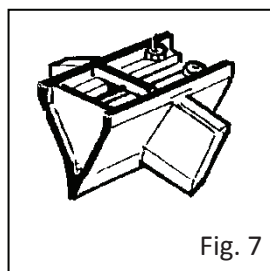

Fig. 7
**The same applies for any optional cutters that may be supplied upon request, such the cross cutter (see Fig. 7).**